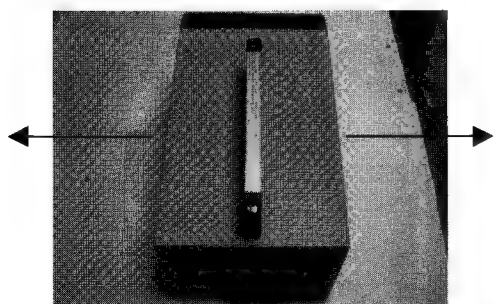

Fig.5
3. Grasp the handle and shift the cover slightly rearward. Gently spread the sides of the cover outward (Fig. 5) and raise the cover upward to remove it.